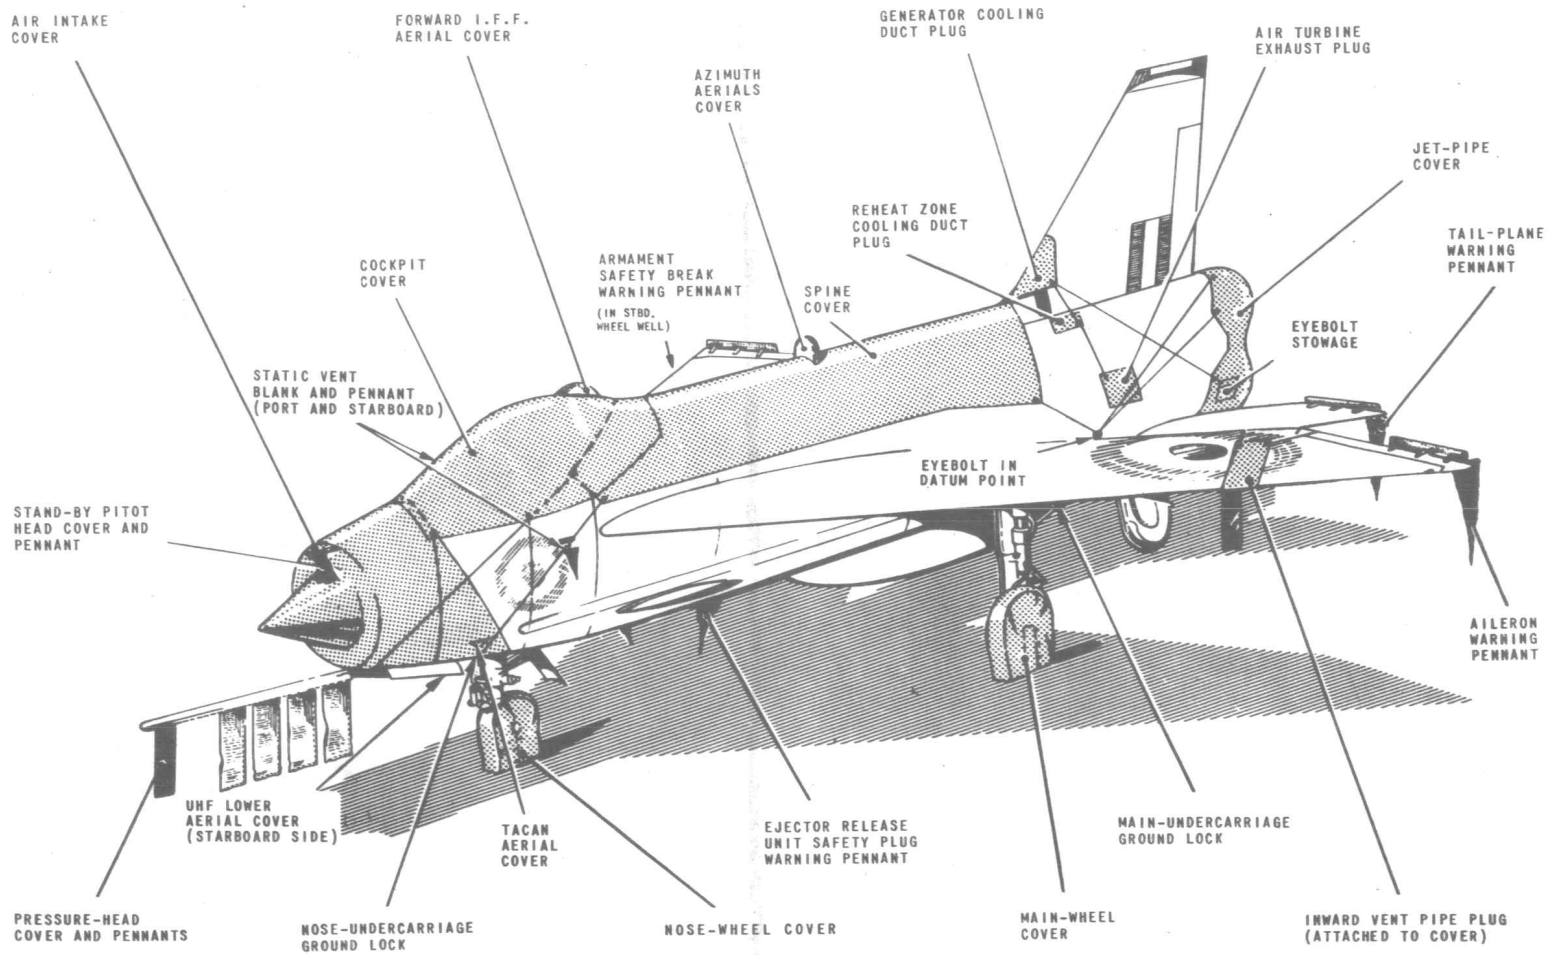

FIG. 4. COVERS, BLANKS AND WARNING PENNANTS
4. The aircraft must be parked with all covers and blanks fitted (*Table 2 and fig.4*), the wheels chocked fore-and-aft and with brakes applied; in wet weather the canopy seal must be kept inflated (*para.5*) to prevent ingress of moisture to the cockpit. Depending upon wind velocity (*Table 1*) picketing may also be necessary. The flying control surfaces are power-operated and external locks are not required; the controls must, however, be left in the neutral position. General picketing instructions are contained in A.P.1464G, Vol.1, Part 2, Sect.5, Chap.2.
Covers and blanks (fig.4)
Warning pennants (fig.4)